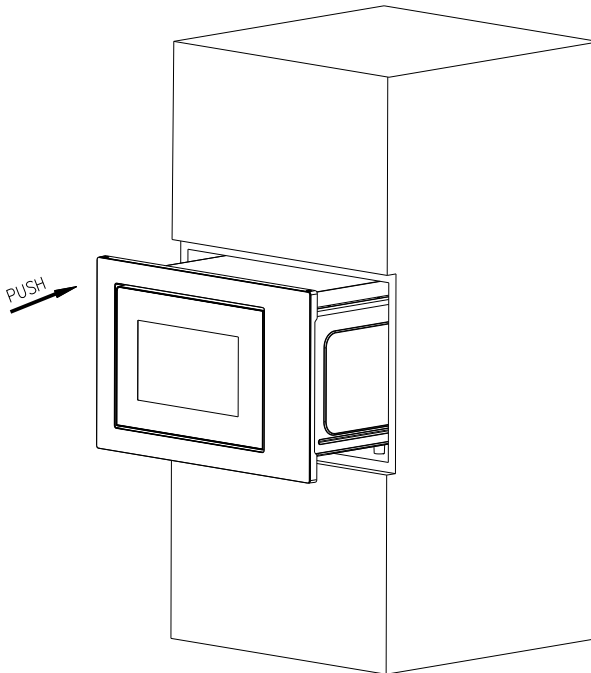
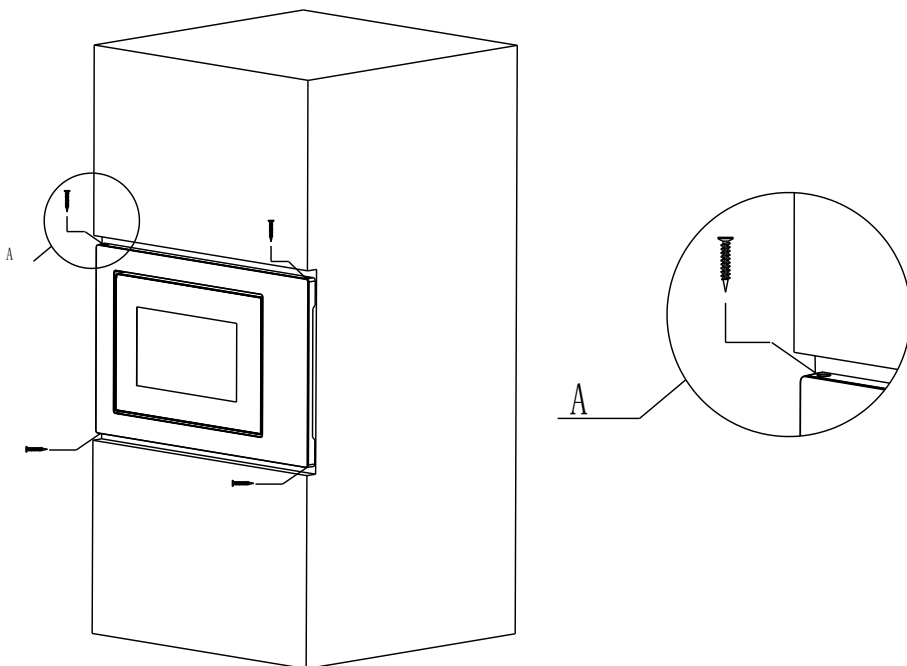

Fig.1
Fig.4
b) Net depth $\geq 550\text{mm}$, as shown in Fig.4.
② INSTALLATION:
a) Put the microwave oven into built-in cabinet and push it forward to the end. (Fig.1)
d) Use the screws of parts packing to secure the microwave oven in the cabinet. (Fig.4).